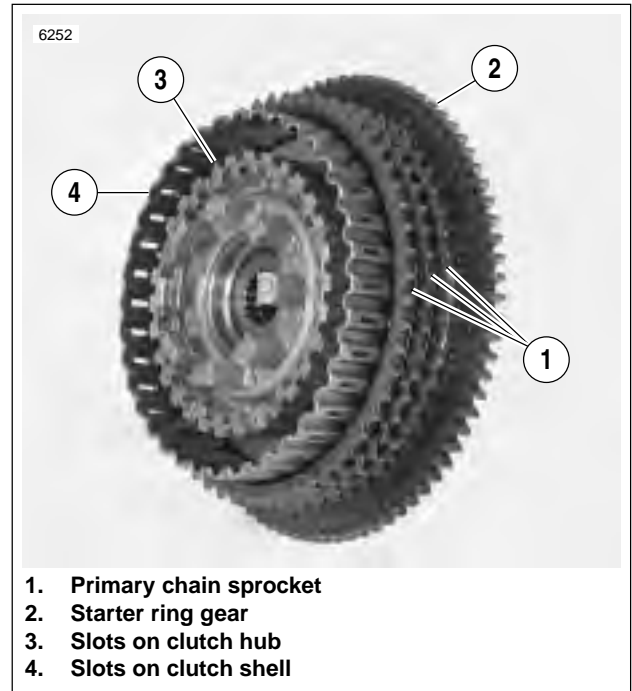

Figure 6-18. Checking Clutch Shell
4. See **Figure 6-18**. Check the clutch shell.
- a. Inspect primary chain sprocket (1) and the starter ring gear (2) on the clutch shell. If either sprocket or ring gear are badly worn or damaged, replace the clutch shell.